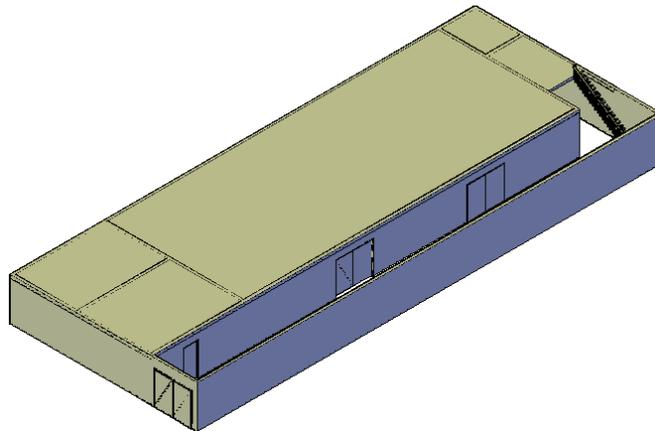
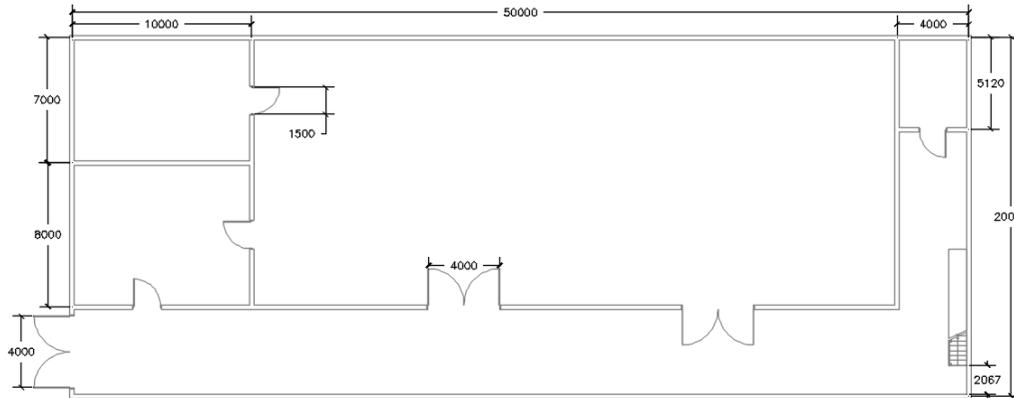

Figure 3-46 Model of a building
Figure 3-47 The plan of the building
In this tutorial, you will create a model of a building, as shown in Figure 3-46. The plan of the building is given in Figure 3-47. **(Expected time: 30 min)**
- d. Create doors according the plan, refer to Figure 3-47.
3. Click to specify the start point of the wall and then create the walls, as shown in Figure 3-48. For dimensions, refer to Figure 3-47.
Now, you need to create doors. For dimensions, refer to Figure 3-47. Make sure that the **Architecture** workspace is active.
4. Click at the required locations to create the doors, refer to Figure 3-47.
9. Click at the required location to position the doors, as shown in the Figure 3-47.